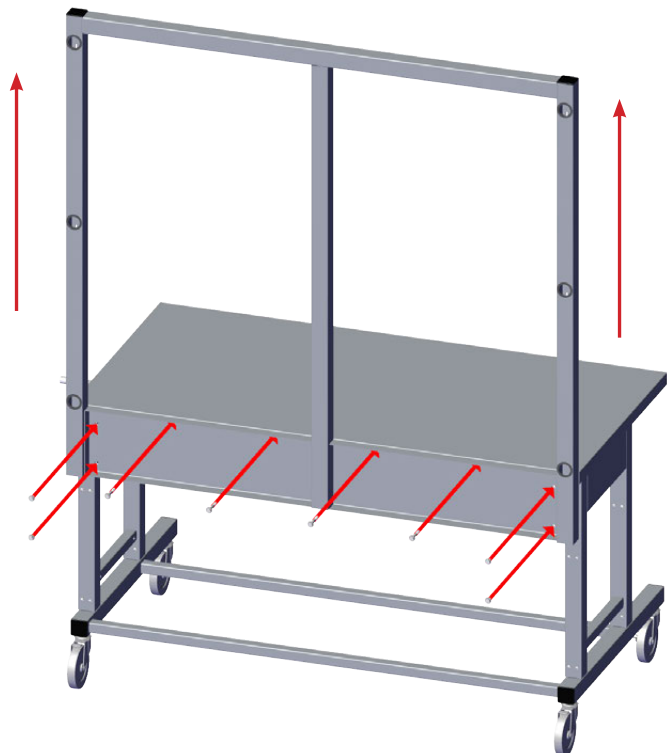

Fig. 2: Raise and secure back frame to table
3. Raise the back frame and align its mounting plate holes with the table bolt holes. (Fig. 2).
4. Insert the bolts and washers through the back frame mounting plate holes (two bolts at each end and four bolts along top edge) and tighten (Figs. 2).